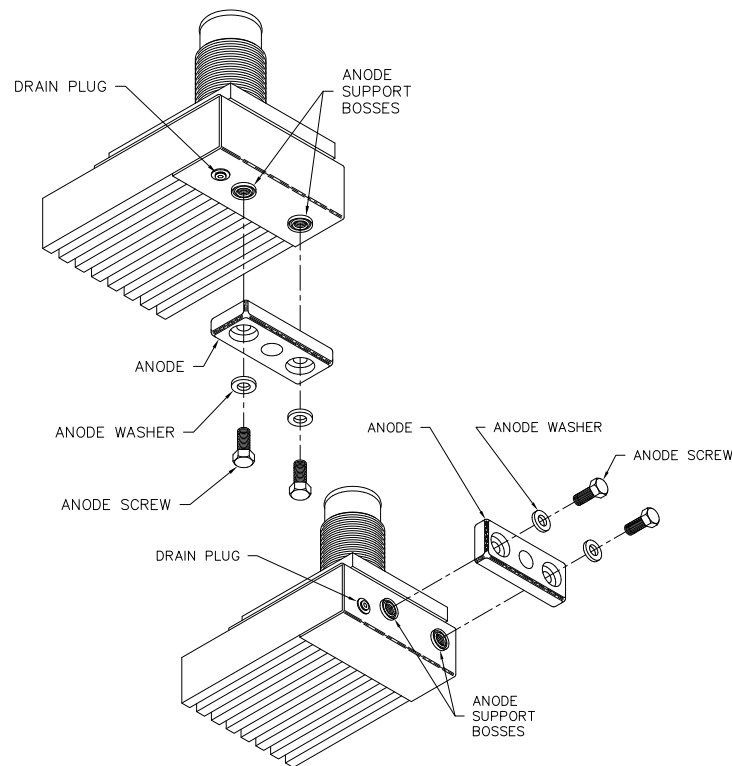

FIG.10 Anode Attachment Detail
2.3.4 Attach the anodes using the special bolts and washers supplied with the unit. They can be found in a cardboard box inside the unit shipping box. See Figure 10.